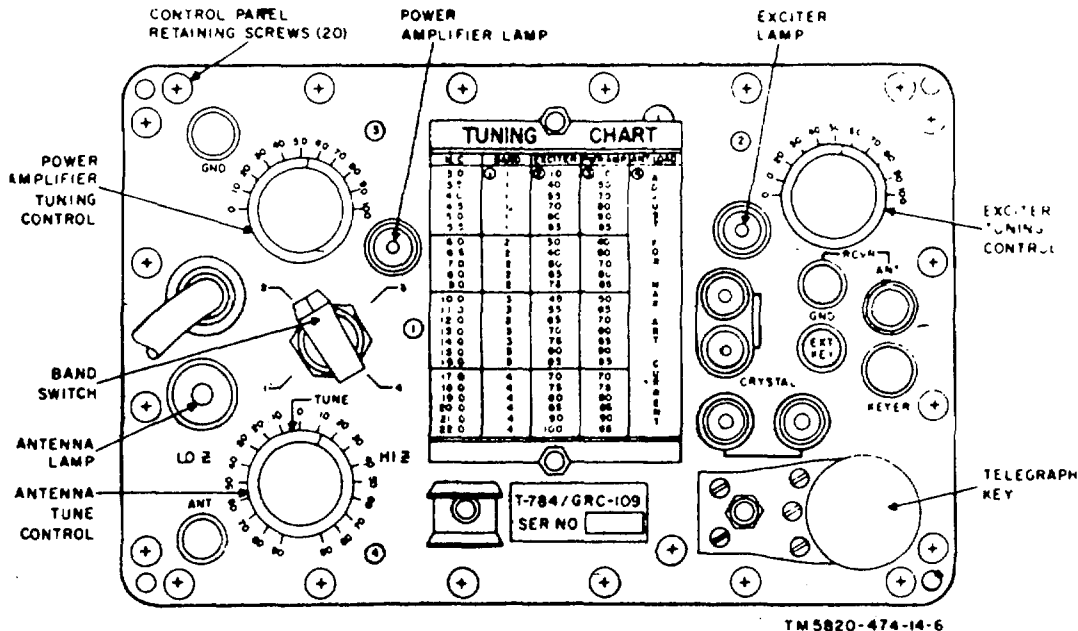
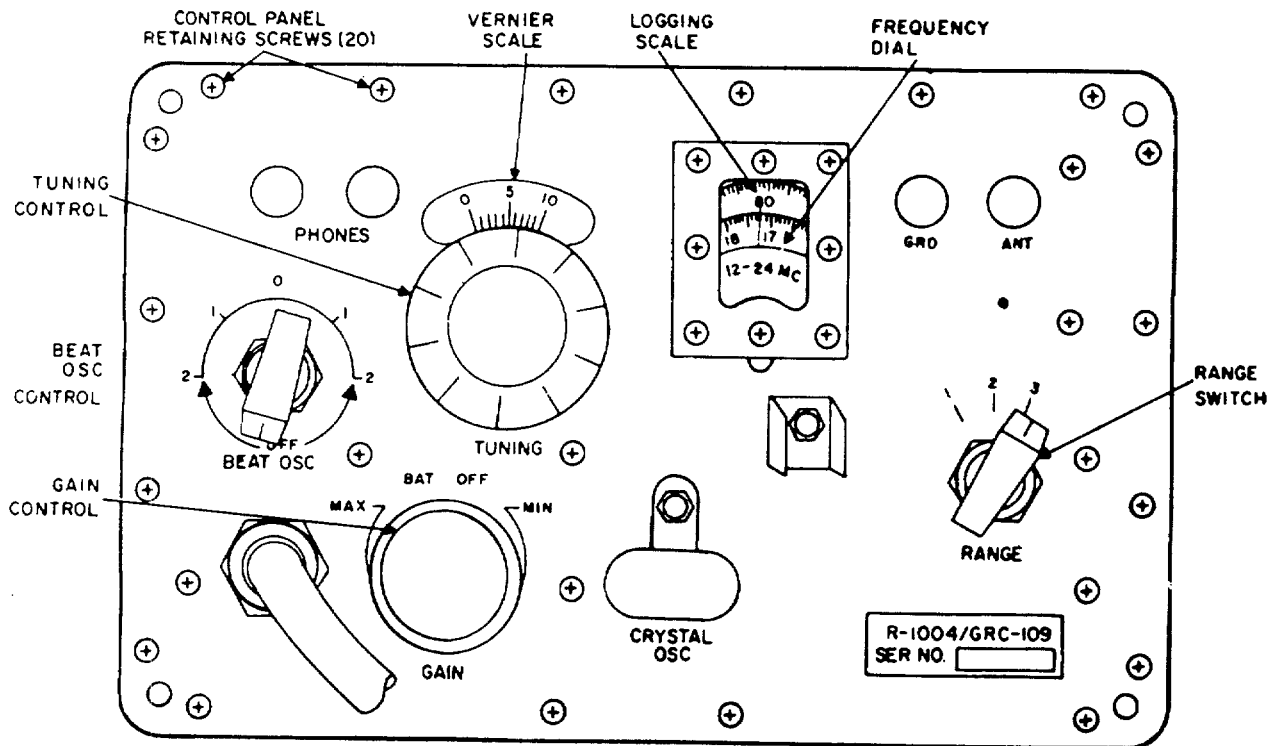

Figure 8. Radio transmitter, t-184/GRC-109, front panel.
Figure 9. Radio Receiver R-100/GRC-109, front panel
- (1) *Pipe grounding.* Use this method of grounding if possible. The wire between the GND post on the transmitter and the connection to ground (soil) must be as short as possible. To obtain a good ground, connect the ground wire to a cold-water pipe with the ground clamp. If no cold-water pipe is available, drive a pipe 4 to 6 feet into the soil, and then connect the ground clamp and ground wire to the pipe. Keep soil about the pipe saturated with water.
- (2) *Counterpoise grounding.* If conditions at the operating site prohibit pipe grounding, a counterpoise must be installed. A counterpoise consists of one or more extended lengths of wire, 75 to 100 feet in length, connected to the GND binding post on the transmitter and placed on the surface of the ground directly beneath the horizontal portion of the antenna.
d. *Preliminary Connections, Common Antenna System* (fig. 8 and 9).
- (1) Connect the H-65/U to the PHONES binding posts (fig. 9) on the receiver.
- (2) Connect the antenna lead-in to the ANT binding post (fig. 8) on the transmitter.
- (3) Connect a length of rubber-covered wire between the ANT bindingpost on the receiver (fig. 9) and the RCVR ANT binding post (fig. 8) on the transmitter. Keep this connection as short as possible.
- (4) Connect a wire between the GRD binding post on the receiver and the RCVR GND. binding post on the transmitter. Keep this connection as short as possible.
- (5) Connect the ground system to the GND binding post on the transmitter.
e. *Preliminary Connections, Separate Transmitting and Receiving Antennas* (fig.8 and 9). Separate transmitting and receiving antennas may prove to be more effective under poor transmission conditions, particularly at lower frequencies.. Separate transmitting and receiving antennas are recommended when using an external high-speed keyer.
- (1) Connect the headset to the PHONES binding posts (fig. 9) on the receiver.
- (2) Connect one lead-in to the ANT binding post (fig. 8) on the transmitter.
- (3) Connect the other antenna lead-in to the ANT binding post (fig. 9) on the receiver.
- (4) Connect the RCVR GND binding post (fig. 8) on the transmitter to the GND binding post on the receiver with a short wire.
- (6) Connect the REC ANT bindingpost and the REC GND binding post on the transmitter with a short wire.
a. Radio Transmitter T-784/GRC-109 (fig. 8).
b. Radio Receiver R-1004/GRC-109 (fig. 9).
b. Consult the tuning chart on the transmitter (fig. 8) and turn controls (1), (2), and (3) to the settings indicated on the chart.
c. Set the RANGE switch on the receiver (fig. 9) to the band that includes the frequency of the signal to be received.
(fig. 8)
(fig. 9)
For operating convenience, a logging scale and a vernier scale (fig. 9) are provided on the receiver. These scales can be used to accurately record the frequency of a received signal for future reference.
b. To remove the power from the receiver only, rotate the receiver GAIN control (fig. 9) counterclockwise to the BAT. OFF position.